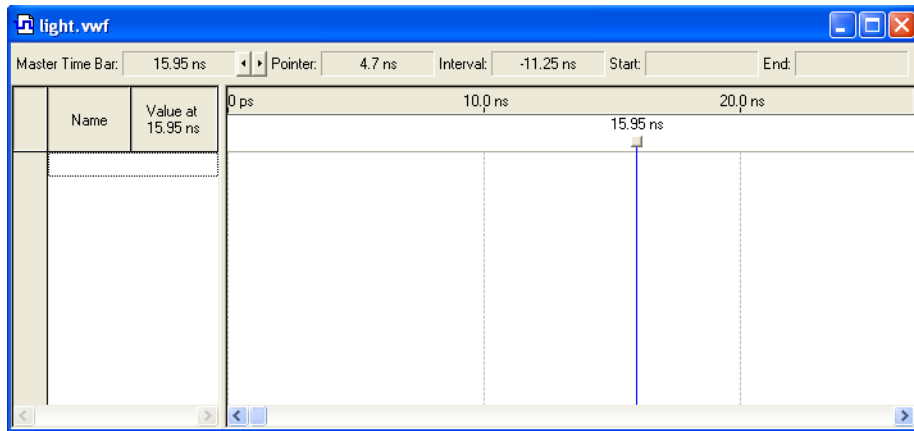
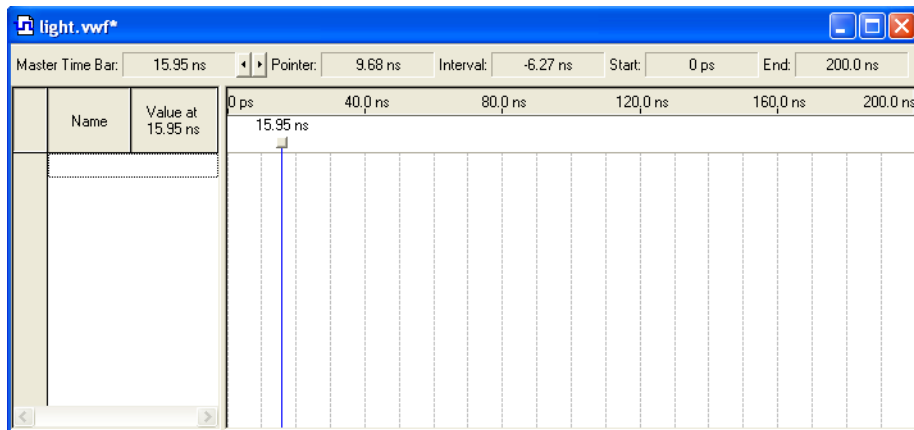

Figure 30. The Waveform Editor window.
Figure 31. The augmented Waveform Editor window.
2. The Waveform Editor window is depicted in Figure 30. Save the file under the name *light.vwf*; note that this changes the name in the displayed window. Set the desired simulation to run from 0 to 200 ns by selecting **Edit > End Time** and entering 200 ns in the dialog box that pops up. Selecting **View > Fit in Window** displays the entire simulation range of 0 to 200 ns in the window, as shown in Figure 31. You may wish to resize the window to its maximum size.